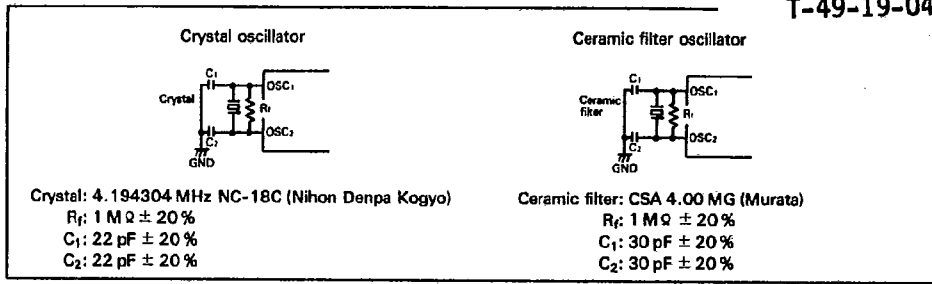

Figure 30. Oscillator Circuit
- Oscillator stabilization time is the time until the oscillator stabilizes after  $V_{CC}$  reaches its minimum allowable voltage after power-on, or after RESET goes high. At power-on or STOP mode release, RESET must be kept high for at least  $t_{RC}$ . Since  $t_{RC}$  depends on the crystal or ceramic filter's circuit constant and stray capacitance, please get the manufacturer's advice when designing the RESET circuit. (See figure 30)